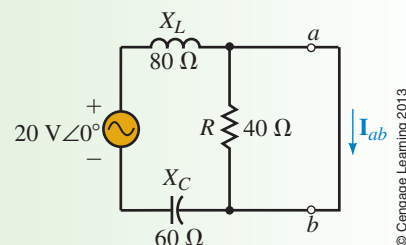

FIGURE 20-29
Step 4: Reinserting the voltage source, as in Figure 20-29, we find the Norton current by calculating the current between the shorted terminals, a and b .